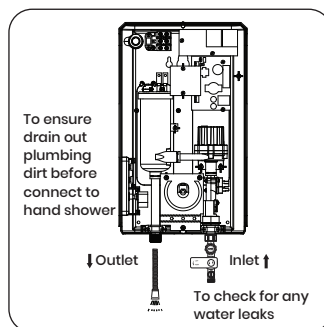

Fig. 5
2. This operation must be carried out with the flexible hose screwed to the outlet but without the hand shower attached. **Ensure the outlet of the flexible hose is able to drain out the waste water (Fig. 5).**
3. Turn on the main water supply, check if there are any water leaks from the pipe line (Fig. 5).